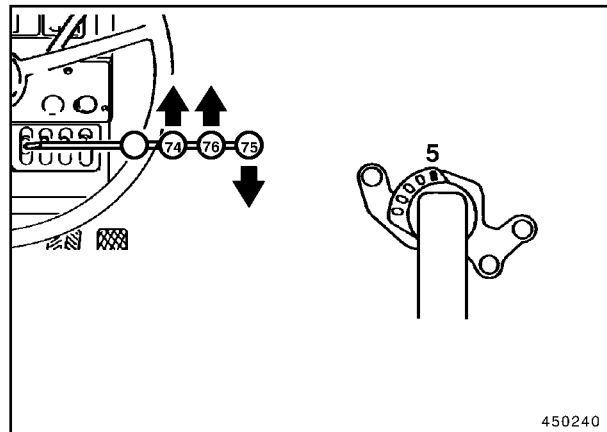

Fig. 8
- Extend blade swivel cylinder with control lever (74, Fig. 8) completely. Set blade on the ground with control levers (75 and 76) to relieve the hydraulic system.
- Bring swivel arm to positions 5 using control levers (74 - 76, Fig. 8). Release button (104, Fig. 5) shortly before reaching position 5. The locking pin engages the corresponding detent by spring force.